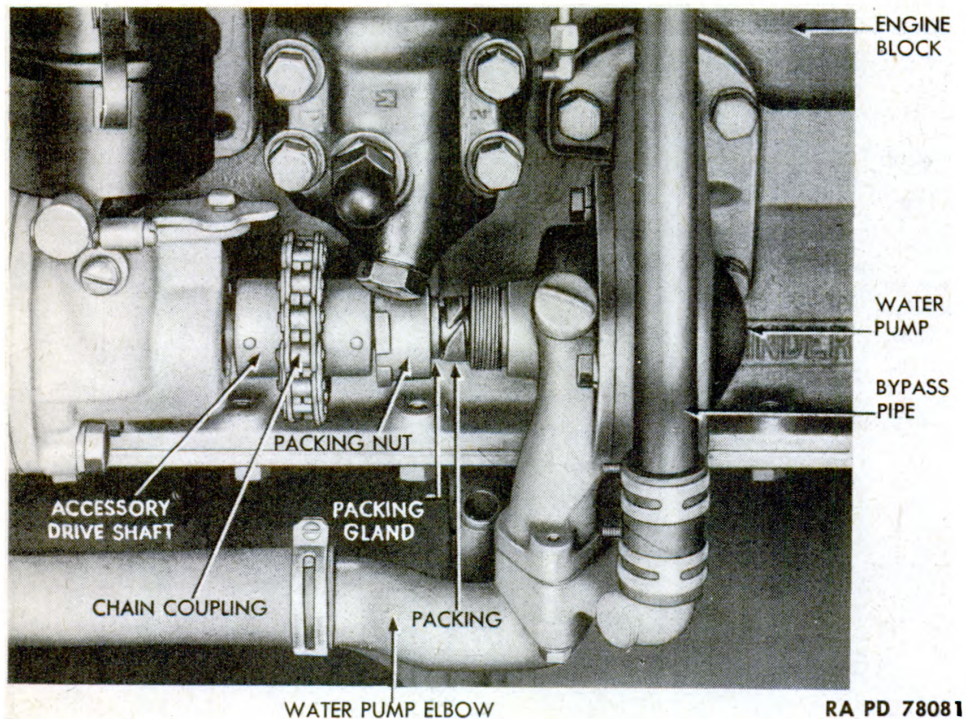

Figure 23 – Water Pump Packing Installation
d. **Repacking** (fig. 23).
(1) Drain cooling system.
(2) Unscrew packing nut, pry out packing gland, and remove old